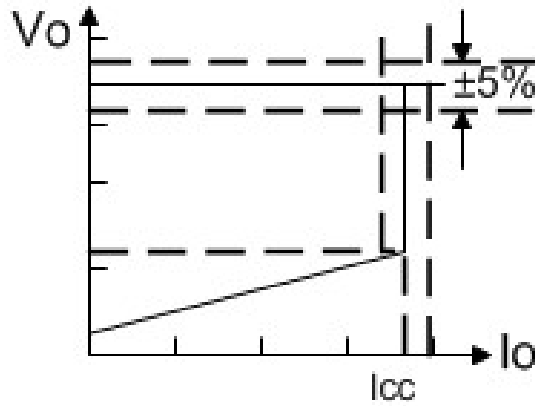

Fig.1 : Typical CC/CV curve
The LY6313 is a high performance offline PSR controller for low power AC/DC charger and adapter applications. LY6313 integrates a high voltage power MOSFET of 600V, 2A. It operates in primary-side sensing and regulation. Consequently, opto-coupler and LY431 could be eliminated. Proprietary Constant Voltage (CV) and Constant Current (CC) control is integrated as shown in the figure.1 below.
LY6313 is designed to produce good CC/CV control characteristic as shown in the Fig.1. In charger applications, a discharged battery charging starts in the CC portion of the curve until it is nearly full charged and smoothly switches to operate in CV portion of the curve. The CC portion provides output current limiting. In CV operation, the output voltage is regulated through the primary side control. In CC operation mode, LY6313 will regulate the output current constant regardless of the output voltage drop.